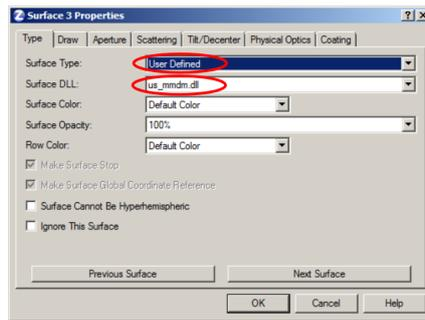

Figure 2: Settings in “Surface type” dialog
1. In the lens parameter table double-click with the left mouse button on the surface type field to invoke surface type dialog. In the field “Surface type” select “User-defined” and in the field “File name” choose “`us_mmdm.dll`”. Click “OK” to confirm (Fig 2).